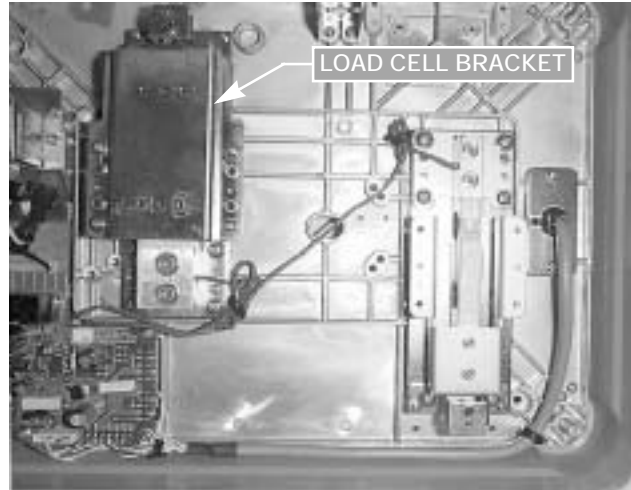

Figure 2-15. Remove Load Cell Bracket
8. If replacement load cell does not include bracket, remove two load cell cap screws from load cell bracket (Figure 2-15). Remove load cell bracket.